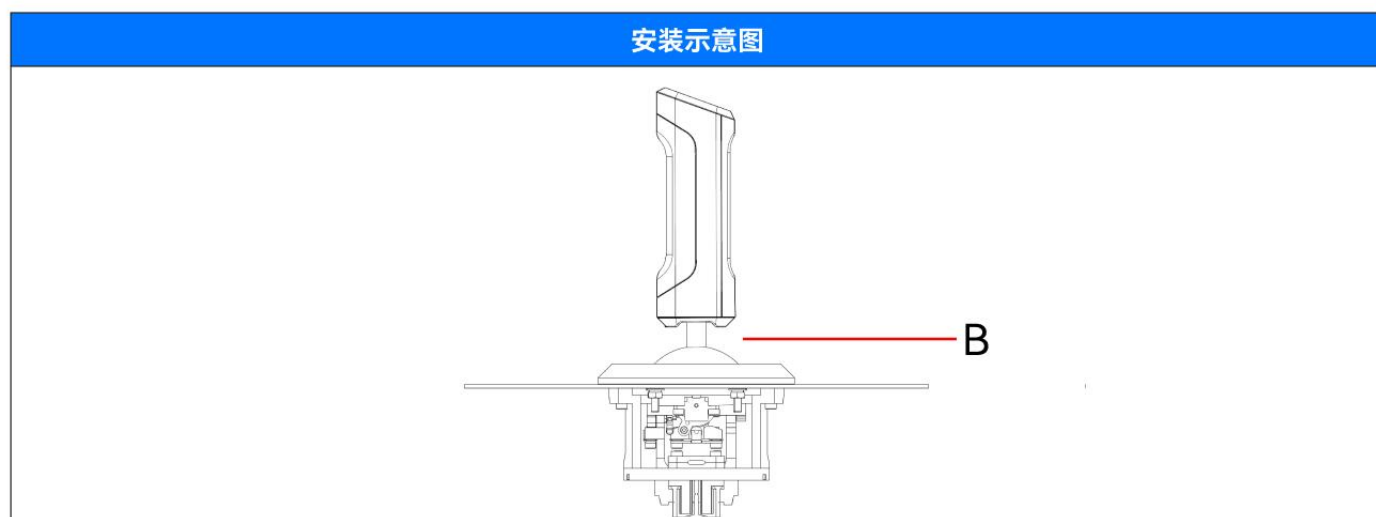

Figure3.3
3. As shown in Figure 3.3, tighten screw B to ensure it is secure and reliable.